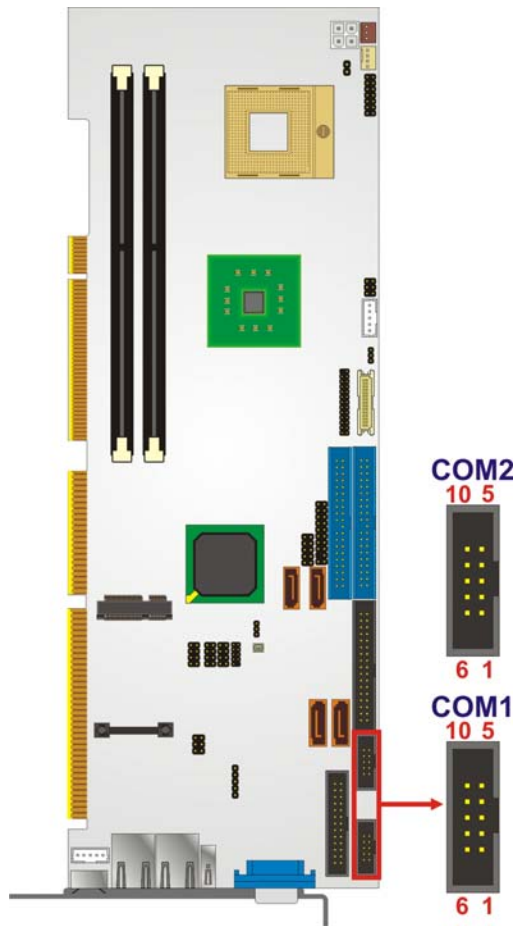

Figure 4-17: RS-232 Serial Port Connector Location
- CN Location:** See **Figure 4-17**